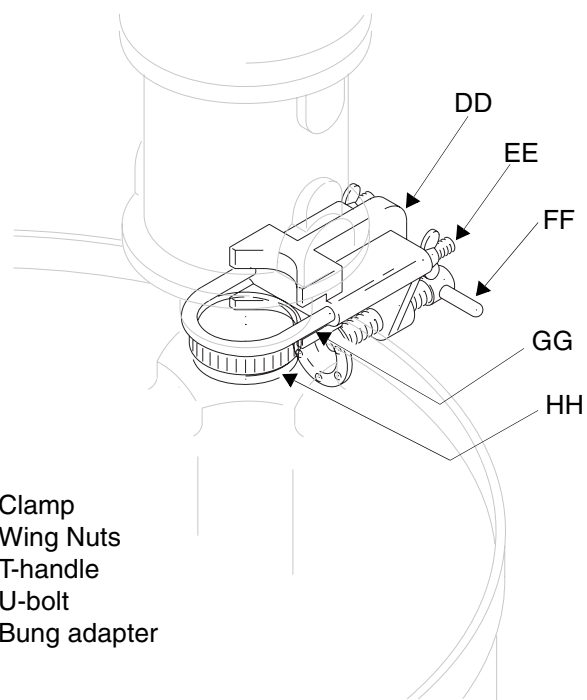

FIG. 10
2. Screw the bung adapter (HH) into the bung hole.
3. Loosen the wing nuts (EE) and slide the clamp (DD) onto the pump extension tube, up to the base. See FIG. 10.
4. Holding the clamp onto the pump, insert the pump extension tube through the bung adapter, and lower the pump until the clamp rests on the edge of the drum. See FIG. 10.
5. Install the sturdi-clamp so its upper jaw fits against the pump base projection, its u-bolt (GG) fits around the extension tube, and its lower jaw fits against the bung adapter. Tighten the wing nuts (EE). See FIG. 10.
6. Tighten the T-handle (FF) firmly to the side of the drum.